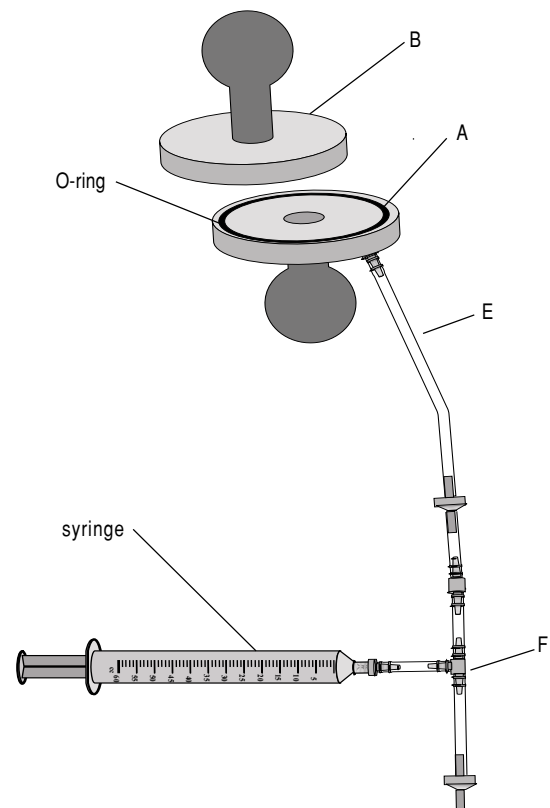

Figure 3
2. Connect part F to part E (Figure 3).